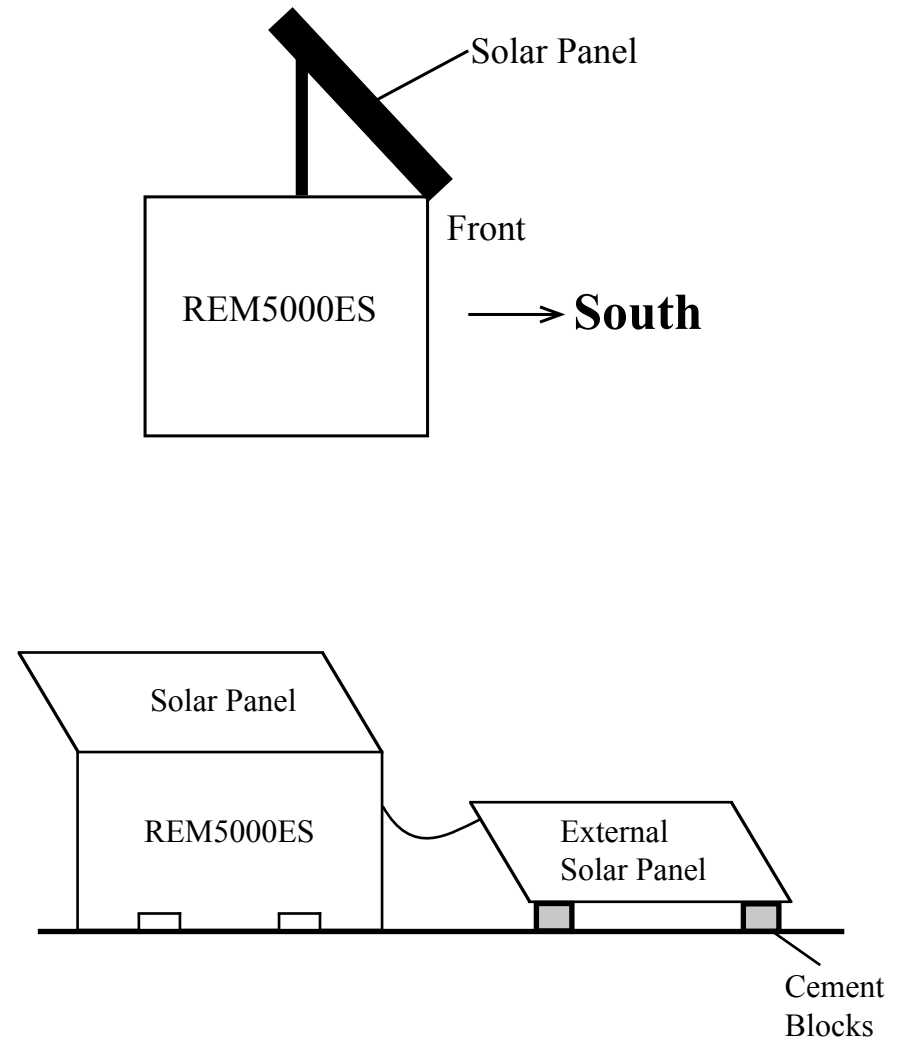

Figure 2
STEP 1. Place the REM5000ES near the well and have the front of the box facing due SOUTH (Figure 2). Reposition the solar panel to its upright position by unbolting the two side hinge arms at each end of the solar panel and reattaching these arms to the top of the box. Place the REM5000ES as close to the well as possible. Place the holding tank within 20 feet of control box. **CAUTION:** The controller inside the control box is NOT intrinsically safe. Do not operate the REM5000ES in a CLASS I area.
REM5000ES also has an external solar panel that comes with a ground mount (Figure 2). The external solar panel needs to be mounted to the ground. The ground mount needs to be anchored to the ground via concrete blocks, if in dirt, or lag bolts, in pavement.